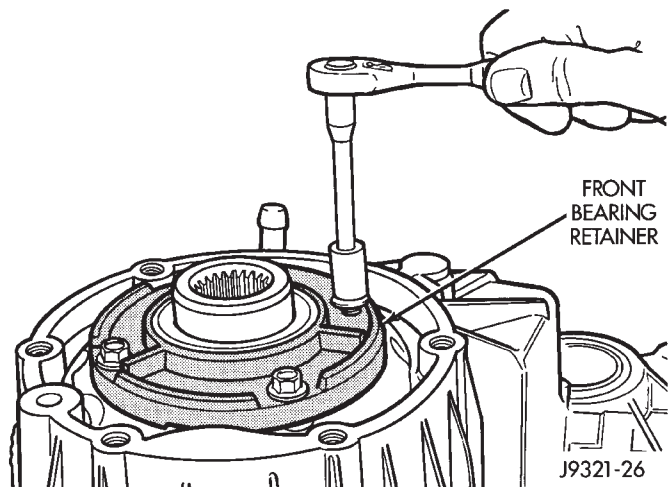

Fig. 55 Install Front Bearing Retainer
(6) Install bolts to hold retainer to transfer case (Fig. 55). Tighten to 21 N·m (16 ft. lbs.) of torque.